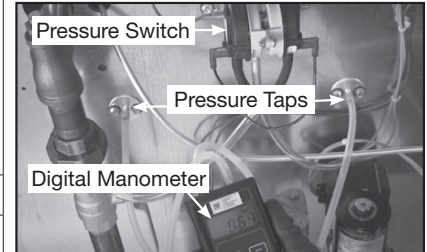

Fig. 1 Measuring the Pressure Drop
3. Check burner pressure differential. (**Fig. 1**)
- Connect manometer to outer sensing probes (**Fig. 1**)